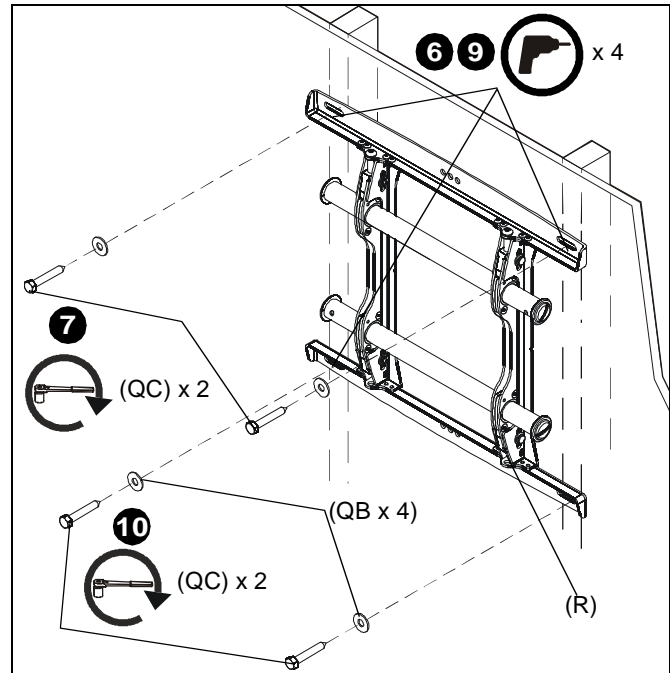

Figure 7
- Drill one 7/32" pilot hole in each stud. (See Figure 7)
- Use two 5/16 x 2-1/2" lag bolts (QC) and two 5/16" flat washers (QB) to attach top of mount to wall. (See Figure 7)
- Mark the attachment points for the lower mounting slots, making sure the attachment points are located on the studs. (See Figure 7)
- Drill 7/32" pilot holes at markings for lower mounting holes. (See Figure 7)
- Use two 5/16 x 2-1/2" lag bolts (QC) and two 5/16" flat washers (QB) to attach the mount to the wall through the lower mounting holes. (See Figure 7)